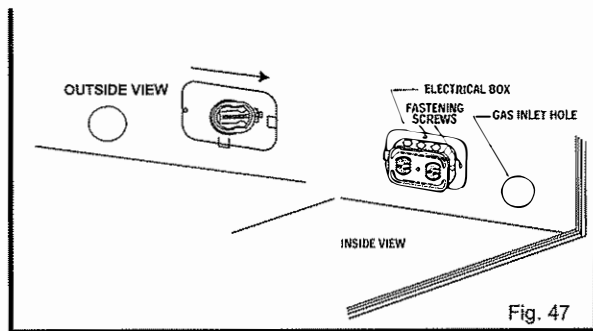

Fig. 47
1. Remove 2" knock out. Slide the electrical box back plate into the back and bottom lances (clips) while fitting the box connector into the knock out. Fasten into place with fastening screws provided. Fig. 47.